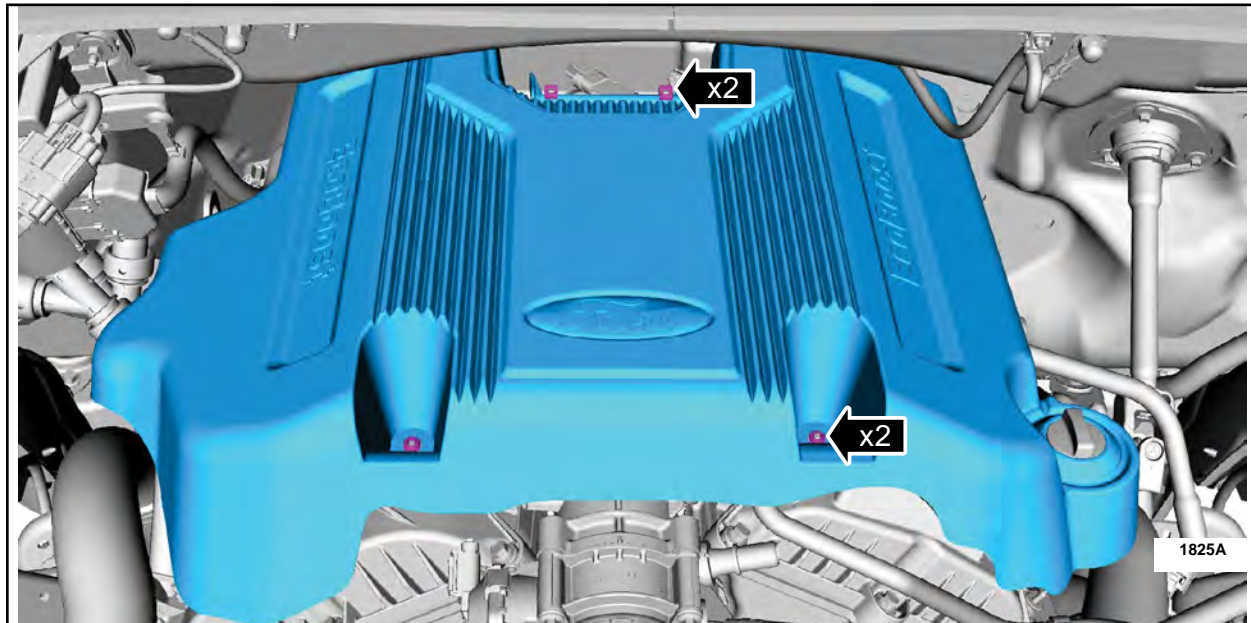

FIGURE 47
92. Install the engine cover. See Figure 47.